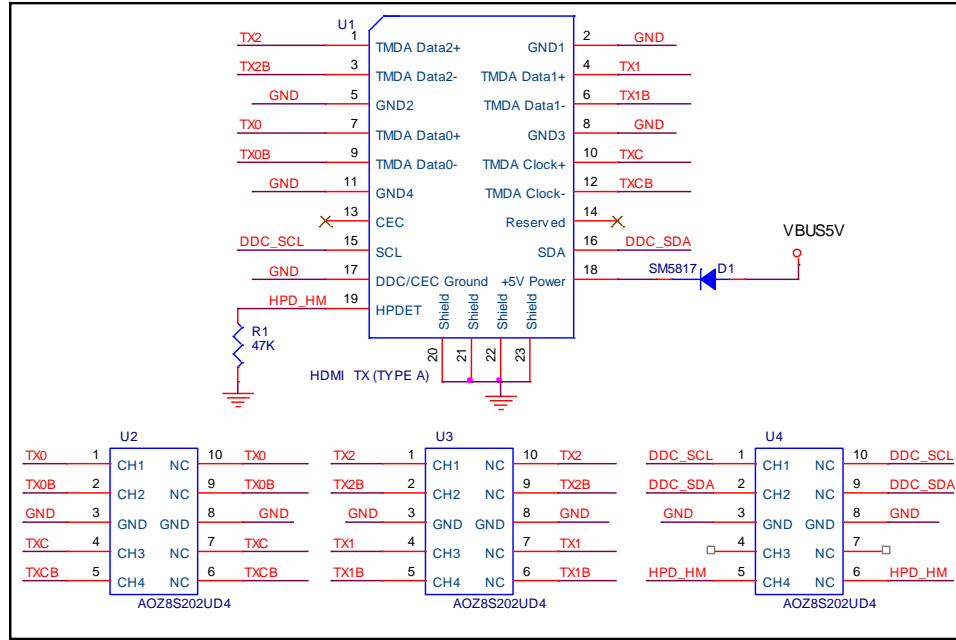

Figure 9: The connection of the HDMI outputs
**Figure 9** show the connection of HDMI connectors, including the recommended design of AOZ8S202UD4 diode array devices. HDMI connector is used to connect the CH7218 HDMI outputs.
This output pin connects to the GND through a 47KΩ resistor. Refer to **Figure 9** for the design example.